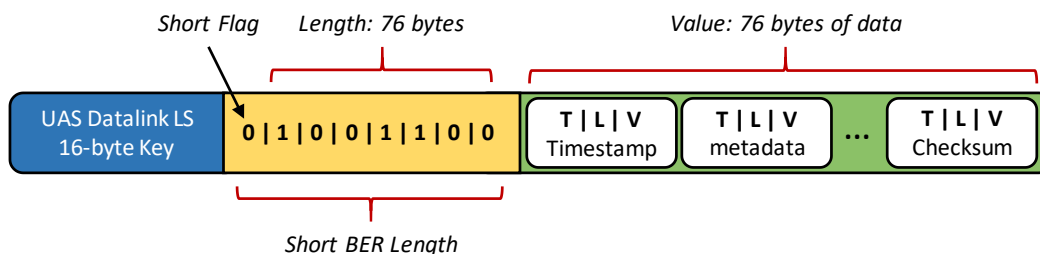

Figure 6-2: Example Short Form Length Encoding
For UAS Datalink LS packets and data elements shorter than 128 bytes, the length field is encoded using the BER short form. In short form encoding, the Length field is represented with a single byte (8 bits). The most significant bit in this byte signals whether short or long form is used. A zero (0) bit indicates short form encoding. The last seven bits indicate the number of bytes that follow the BER-encoded length. In short form encoding, the allowed length of the Value is 127 bytes. An example LS packet using a short form encoded length is shown in Figure 6-2: